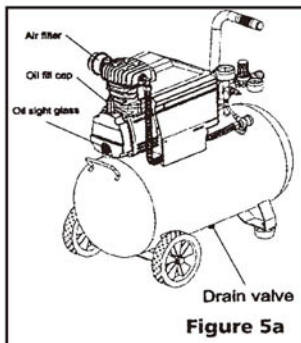

Figure 5a
2. Drain moisture from tank by opening drain valve (see Figure 5a)